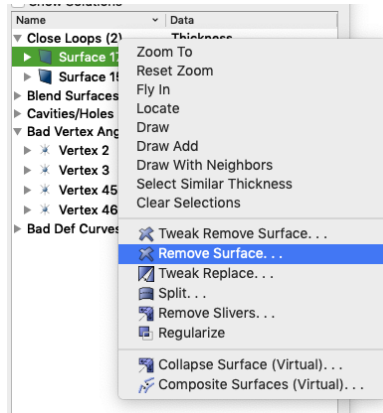

Figure 3. Geometry entity context menu in power tool.
- **Context Menu:** Right clicking on an entity in the list will reveal a list of options that are normally relevant for the selected entity type. (See Figure 3.) For example, selecting the **Remove Surface...** menu item will bring up the Remove Surface command panel pre-populated with the relevant entity. To execute the same operation on many entities at once, first select all relevant entities in the list.